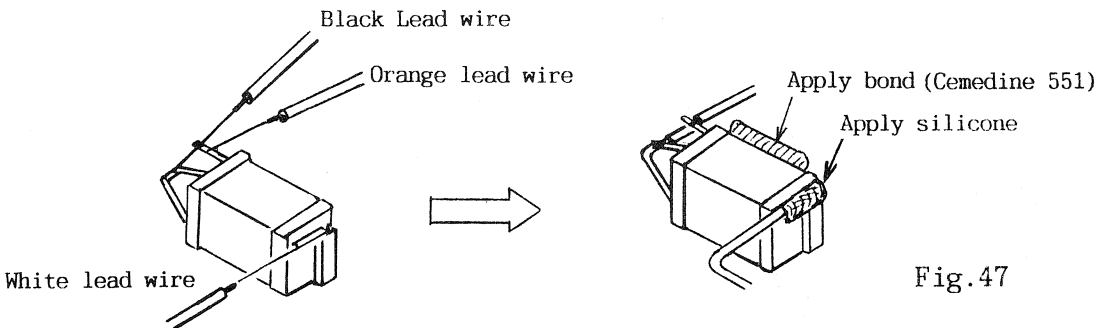

Fig.47
- 1) Remove the silicone from the Trigger Coil (36052700) and unsolder the White lead wire. (See Fig.47)